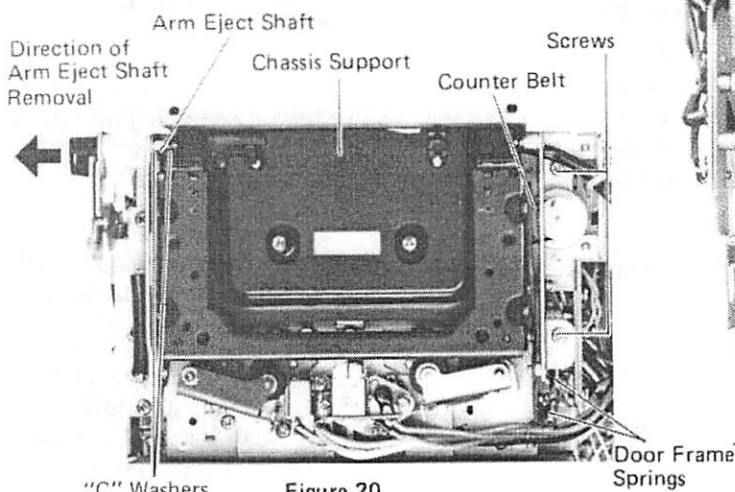

Figure 20
- (1) Remove two springs from the door frame as shown in Figure 20.
- (1) Remove two "C" washers and then remove the arm eject shaft in the direction of the arrow as shown in Figure 20.
- (2) Remove two screws as shown in Figure 20.
- (3) Lay down the chassis support to this side and remove the counter belt.